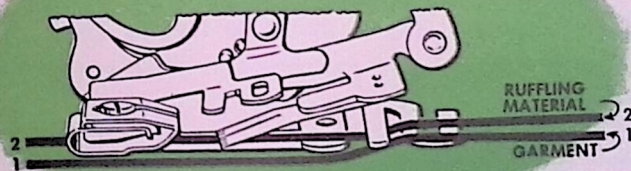

Fig. 64. Correct Positions for Materials
1. Insert material to be ruffled between two blue blades and under separator guide (Line 2, Fig. 64).
2. Place material to which ruffle is to be attached under separator blade and under separator guide (Line 1, Fig. 64).